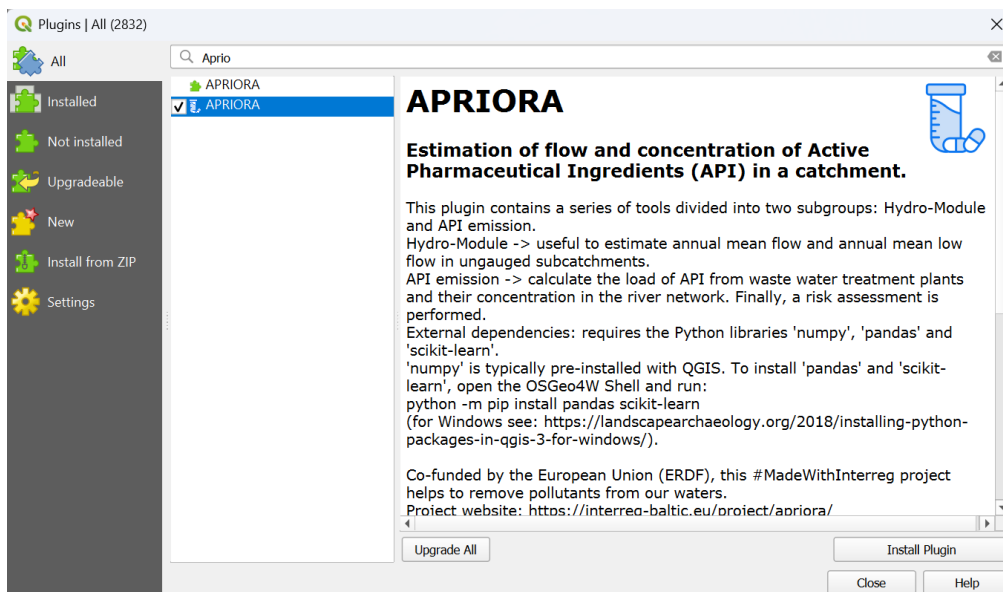

Figure 1. Install the APRIORA plugin.
4. Click on *Install Plugin* (Fig. 1)